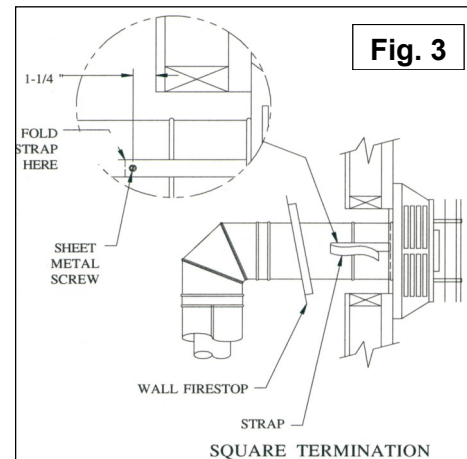

Fig. 3
9. Slide the Wall Thimble Cover up to the wall surface and attach to the wall with wood screws. (Fig. 3)